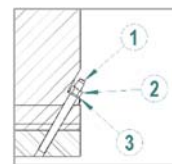

Figure 4.13: Dowel pin set
After aligning the set and having assured a perfect alignment (**both, hot and cold**), the motor must be doweled to the anchor plate or to the base, as shown in Figure 4.13.
- Figure 4.13 legend:**